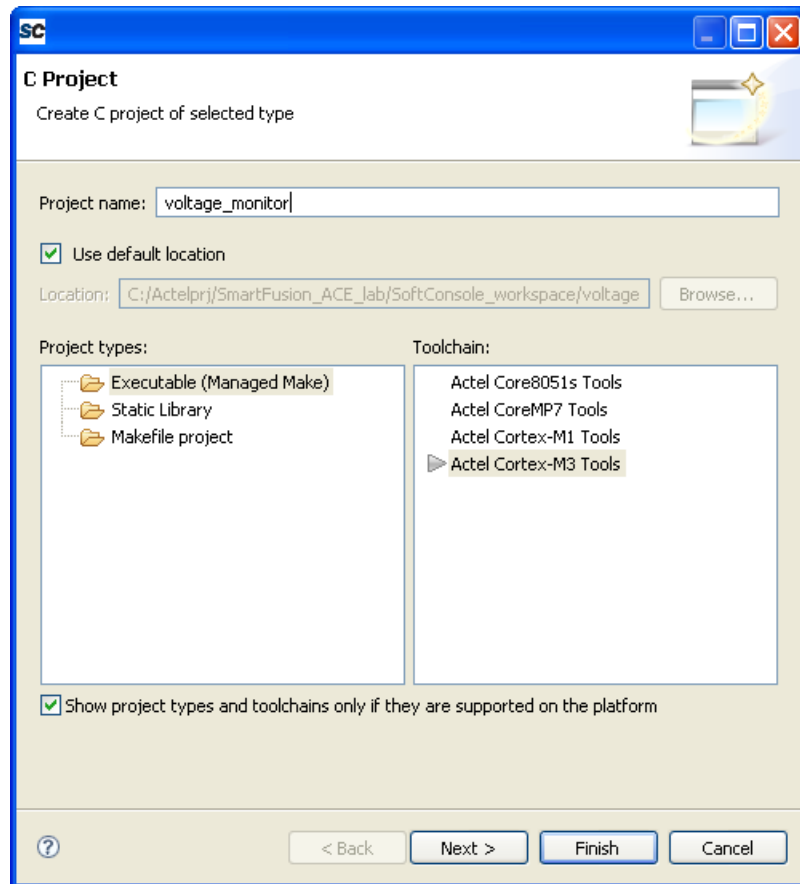

Figure 3-2 · Selecting Project Name, Type, and Toolchain
1. From the **File** menu, choose **New > C Project**. The C Project box opens (Figure 3-2 on page 18).